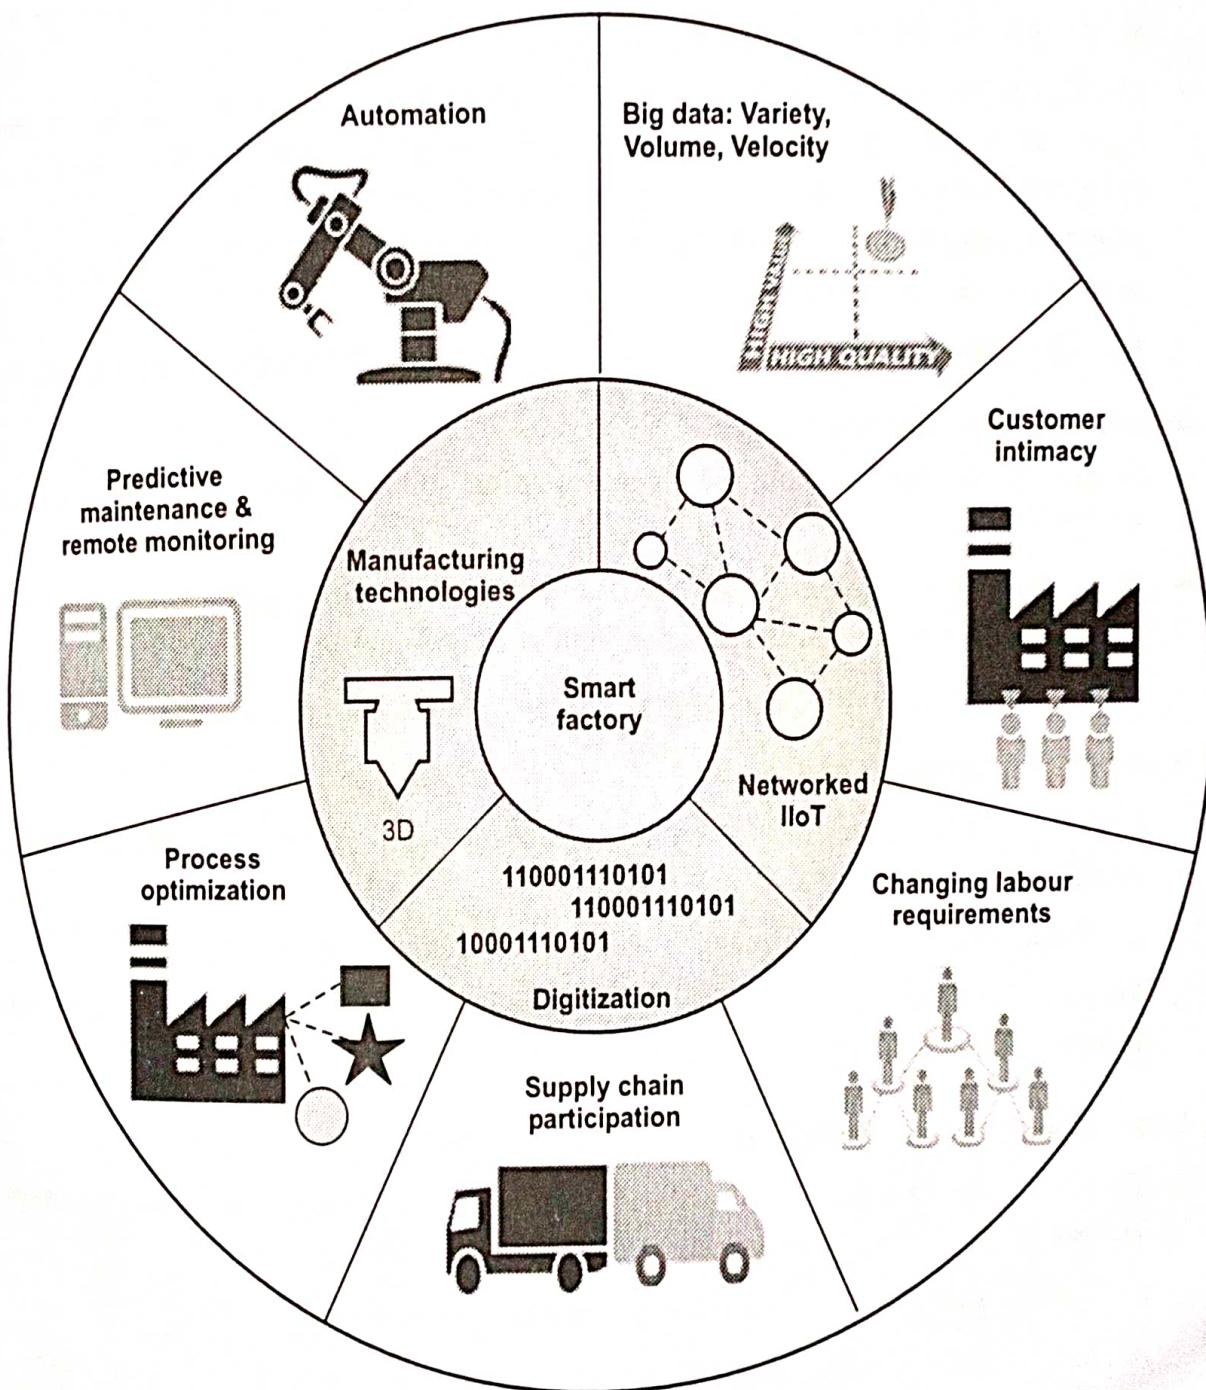

Fig. 7.8.1 : Smart factory concept
- Fig. 7.8.1 shows smart factory concept. (See Fig. 7.8.1 on previous page.)